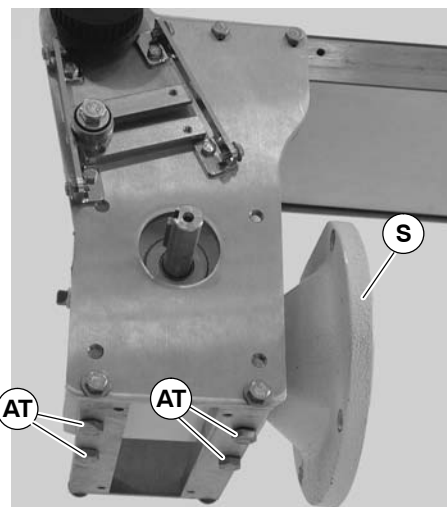

Figure 40
5. Remove four (4) gear reducer mounting screws (AT of Figure 40). Remove gear reducer (S).